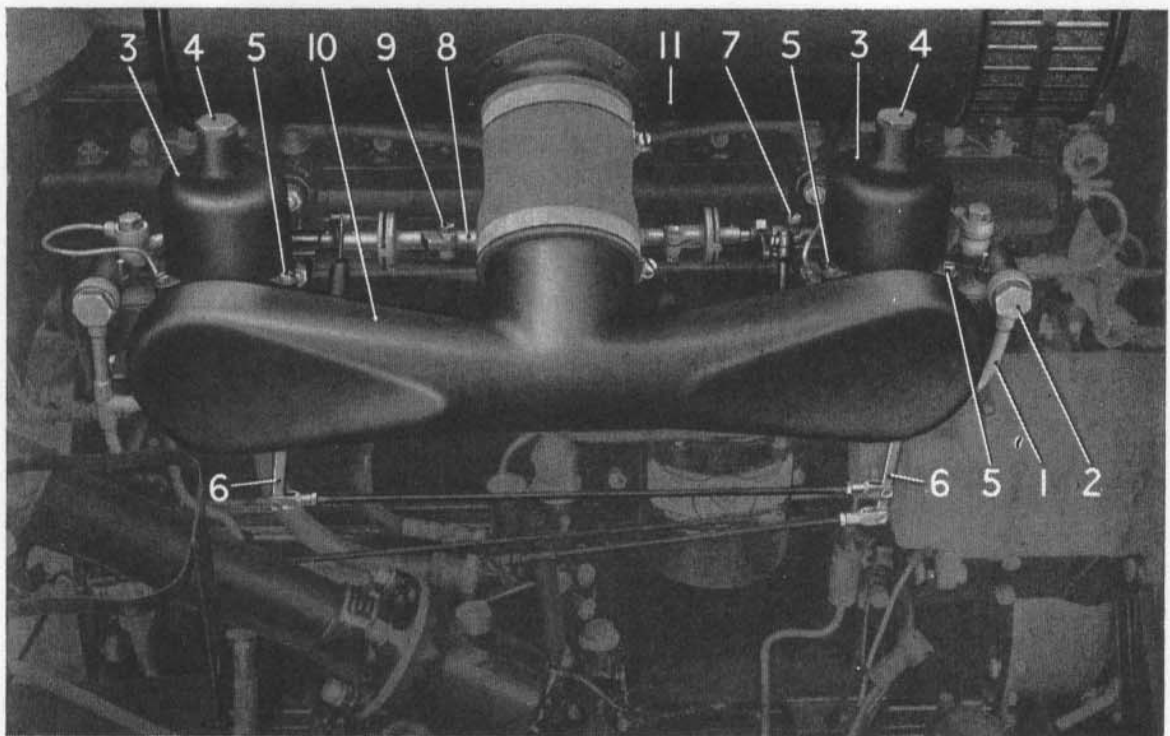
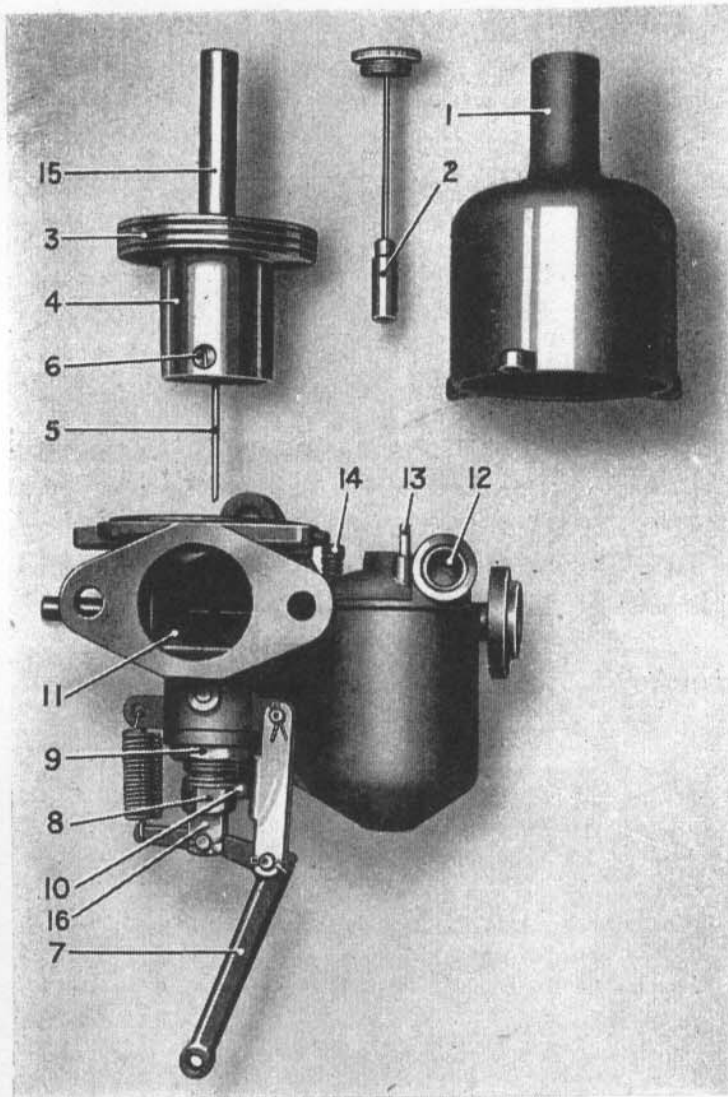

Fig. 13. CARBURETTERS IN POSITION ON ENGINE
Fig. 14.—CARBURETTER—EXPLODED VIEW.
In addition, a small gauze strainer, shown at (12, Fig. 14), is arranged on each carburetter. These should be removed and cleaned every 20,000 miles, as directed on page 33.
Removal is effected by unscrewing the two union nuts (2, Fig. 13).
Two carburetters of the S.U. controllable jet type are fitted as shown in Figs. 13 and 14, one being shown in section to illustrate the principal parts.
The automatic air valve is of the conventional S.U. pattern, and includes a hydraulic suction piston damper to delay the rise of the air valve piston during acceleration and when starting the engine from cold. The damper consists of a small cylindrical brass plunger (2, Fig. 14), attached by a thin steel rod to the oil cap nut (4, Fig. 13). Inside the plunger is a one-way ball valve which seats in an upward direction. The plunger is a free fit in the hollow guide rod of the automatic air valve piston, the chamber being filled with a thin oil. The action of the device is as follows:—
Every month, as directed on page 30, the oil reservoir cap nut (4) (Fig. 13), should be unscrewed and the plunger withdrawn, *great care being taken to avoid damage to the plunger rod by bending*; the reservoir should be topped up, if required, with the recommended oil, so as to maintain the level of the oil to the top of the guide rod only. The
If it is suspected that the automatic air valve is not working correctly, the air intake (10, Fig. 13), should be removed, and a check made by lifting the piston with the fingers, when it should be noted that the piston falls quite freely on to its seat when released.
If any sticking or sluggishness is apparent, it will be necessary to dismantle the air valve assembly; first remove the hydraulic piston damper, next remove the three screws (5, Fig. 13), and lift off the cylinder (3). The piston valve can be then lifted out, *the utmost*
*care being taken not to bend or damage its depending needle valve (5, Fig. 14), or to bruise the valve in any way.* The valve, cylinder and guide, should be carefully wiped with a piece of clean cloth dipped in petrol, and the piston rod ONLY lubricated with a few drops of thin oil.
The suction disc (3, Fig. 14), does not touch the walls of the cylinder, there being a small clearance, and it is centralised solely by the piston rod working in the guide. Therefore, any sluggishness in movement is probably due to dirt in the guide, or on the cylinder walls.
The needle valve is secured in position by means of a grub screw, (6, Fig. 14), and if it should be necessary to remove this, as, for instance, when replacing an accidentally damaged needle, it must be particularly noticed that the location of the valve is determined by a shoulder. The valve should be pushed into the piston until this shoulder is just flush with the lower face and the grub screw tightened.
The quantity of mixture for slow running is determined by means of an adjustable screw stop on the front carburetter (7, Fig. 13), which limits the closing movement of both throttles. This is so adjusted that the engine will idle slowly but reliably when the hand throttle lever on the steering wheel is set right to the bottom of its range and the accelerator pedal released. The stop on the rear carburetter is normally inoperative, and is only used to help initial adjustment.
Re-adjustment of the jets, and of the control shaft between the carburetters, should not normally be required. If, however, the whole adjustment has been disturbed, first adjust the throttles so that both carburetters function equally at "fast idle". An indication that both pistons have risen can be felt by depressing the top of the piston guide rod (15, Fig. 14) by means of a small rod inserted through the top of the cylinder (3, Fig. 13), after removal of the oil cap nut and hydraulic piston damper (4, Fig. 13). The jets should then be adjusted subsequent to this operation, as described below.
The mixture control lever on the steering wheel operates to raise or lower the actual fuel orifice or jet, through the medium of the levers (6, Fig. 13.). Raising the jet causes the taper needle to sink further into the orifice, so weakening the mixture. Conversely, lowering the jet enriches the mixture. This control is only intended to provide a means of strengthening the mixture for starting from cold, for normal running the jets must be in their highest position, the back of both the jaws (16, Fig. 14), abutting against the adjustable stops (8, Fig. 14), simultaneously.
With the engine warm, the control rods should be disconnected from the ends of the levers (6, Fig. 13), and the latter pushed up until the jaws (16, Fig. 14), are against the stops (8, Fig. 14). Then, with the engine running, the stops should be manipulated until the engine runs regularly. Any sign of "hunting" is due to the mixture being too rich, and one or both of the stops must be screwed farther in and the lever pushed up so that the jaw is against it.
If it is required to dismantle the float chambers, it will be most convenient to remove them bodily—after removing the fuel pipes—by unscrewing the hexagon plugs (10, Fig. 14), which secure each to its carburetter body.
The large hexagon (9, Fig. 14), should not be disturbed, as the refitting of this requires special tools to ensure that the jet is accurately centralised relative to the taper needle valve.